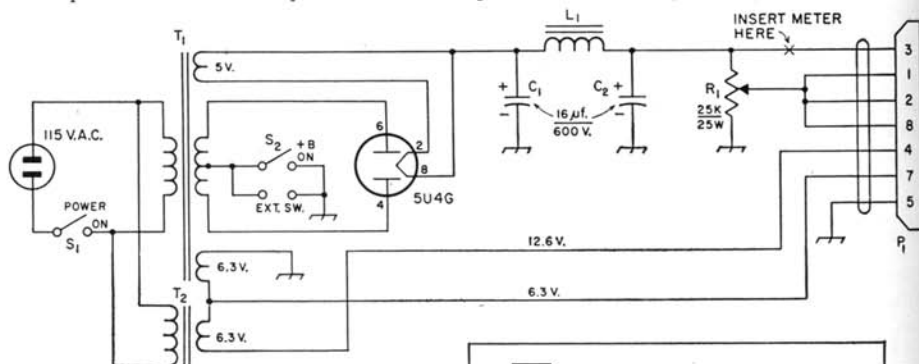

Fig. 6-91—Circuit diagram of power socket and power supply.
8) Wire the octal socket as shown in Fig. 6-91. One of the leads unsoldered from the original power socket is red with a white tracer. This is the B+ lead for the 1625s. The yellow lead is the screen lead for the 1625s and the white lead is the heater lead. Although the manuals covering this equipment specify these colors, it's safer not to take them for granted; check where each lead actually goes before connecting it to the new power socket. The lead from Pin 1 on the power socket to Pin 6 on the calibration-crystal socket is the oscillator plate-voltage lead. The leads from Pins 7 and 8 on the power plug to Pins 1 and 6 on the oscillator socket are new leads to carry power to the external crystal-controlled oscillator. The lead from Pin 4 of the power socket to Pin 2 on the 1629 (resonance indicator) socket is the 12-volt heater lead.
Fig. 6-91 shows the circuit of the power supply, which uses a 5U4G rectifier and a capacitor-input filter. The power transformer, T₁, is a type made by several manufacturers. To obtain the necessary 12.6 volts for the heaters, a 6.3-volt filament transformer is connected in series with the 6.3-volt winding on T₁. This setup also will provide 6.3 volts for the heater of the 6AG7. Current requirement for the 6AG7 heater is 0.65 amp. and for the 1625s, 0.9 amp. total.
A key and meter connected as shown in Fig. 6-92 are needed for checking the transmitter. When P_3 is plugged into the jack in the transmitter it will measure the cathode current of the 1625s. The cathode current is the sum of the plate, screen and control-grid currents. Some amateurs prefer to install the meter in the plate lead so it reads plate current only. This can be done by opening the B-plus line at the point marked "X" in Fig. 6-91, and inserting the meter in series with the line. However, unless more than one meter is available, don't install it in the power supply setup in this way until after the tests described below have been made.